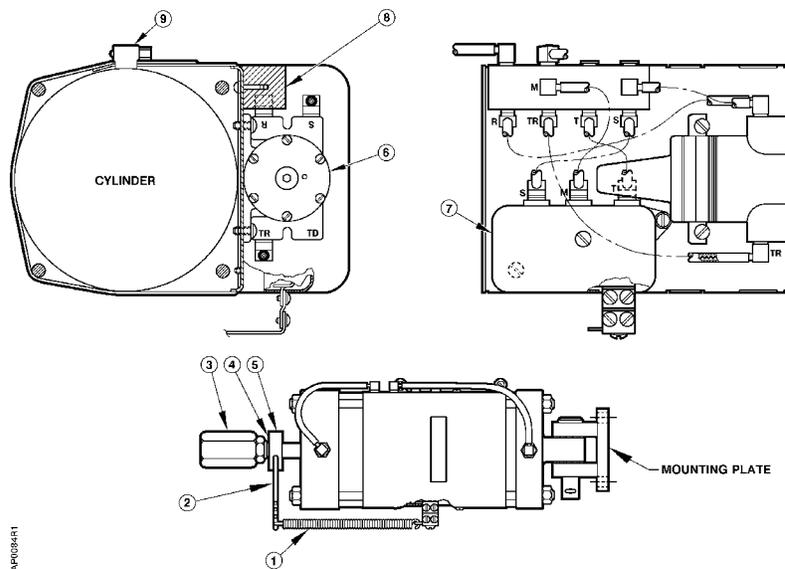

Figure 9. Piping and Call-outs.
* Item Numbers are shown in Figures 9 and 10.
** Kit 333-056 (includes items 14, 15, 16).